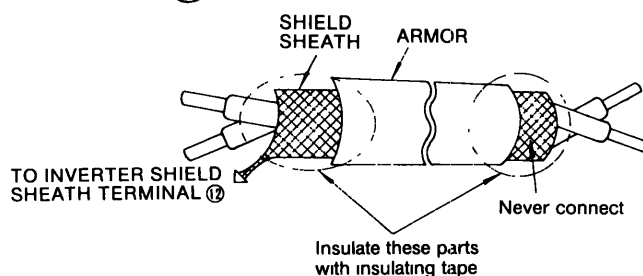

Fig. 3 Shielded Lead Termination
(2) Control circuit leads ⑨ ⑩ ⑱ ⑲ ⑳ (contact output) must be separated from leads ① to ⑧, ⑪ to ⑱ and ㉑ to ㉒.
Use the twisted shielded or twisted-pair shielded lead for the control circuit line and connect the shield sheath to the inverter terminal ⑫. See Fig. 3.